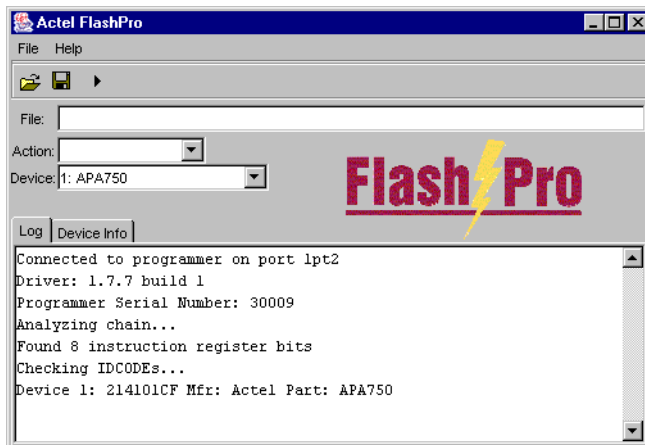

Figure 2-4. FlashPro: Analyzing Chain
1. From the *File* menu, click *Analyze Chain*. Chain details appear in the Log window, as shown in Figure 2-4. The software should detect a minimum of eight instruction bits (the IR length of a ProASIC or ProASICPLUS device). If you encounter any failures, please refer to “Error Messages & Troubleshooting Tips” on page 89 for more information.